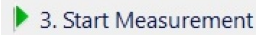

Figure 25. Start dilatometer.
20. Select the start measurement green side arrow to start the run and collect the data. See Figure 25 for how this should look.
13. Select the start measurement green side arrow to start the run and collect the data (refer to figure 25).